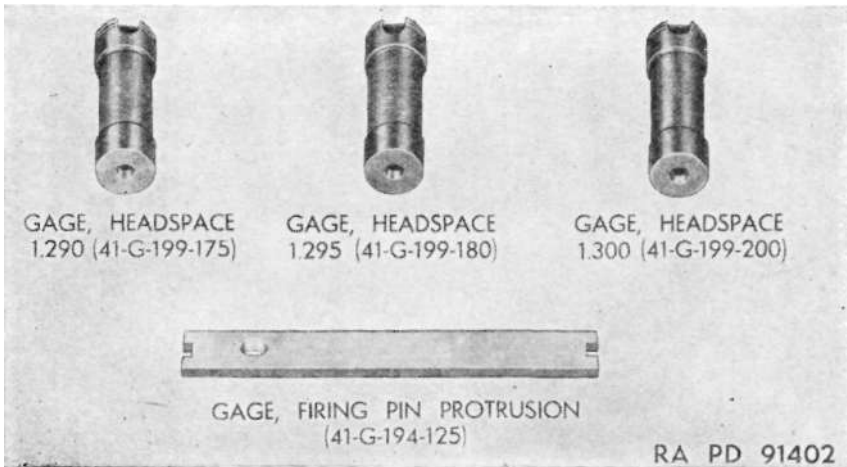

Figure 16. Carbines, cal. .30 M2 and M3 — Gages.
m. GAUGE, HEADSPACE, 1.290 41-G-199-175, GAUGE HEADSPACE 1.300 41-G-199-200 (fig. 16). These gauges are used to check the headspace in carbines.
n. GAUGE FIRING PIN PROTRUSION 41-G-194-125 (fig. 16). The firing pin protrusion gauge is a double end gauge with a GO notch on one end and NO GO notch on the other.
p. GAUGE, HEADSPACE 1.295 41-G-199-180 (fig. 16). This gauge is provided for fifth echelon maintenance in addition to the gauges used in third and fourth echelon maintenance.